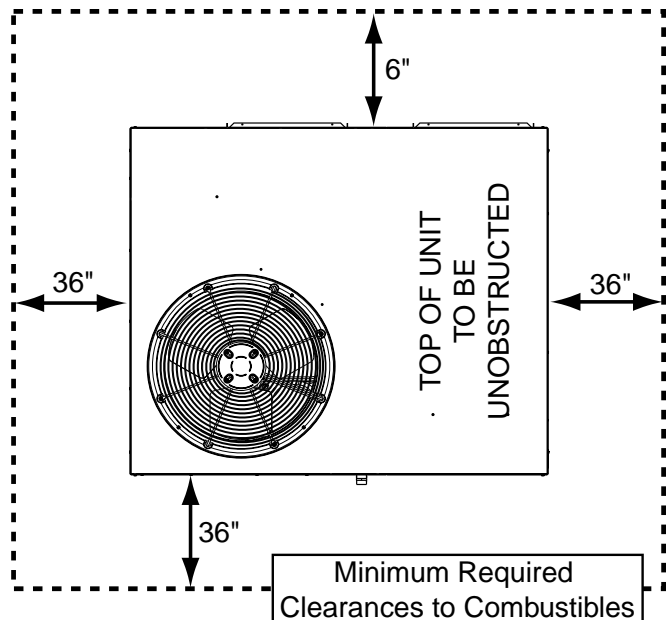

Figure 1. Clearance Requirements
- Provide adequate clearances around the combustion air intake louvers. See Figure 1 (page 5).
- Sufficient clearance for unobstructed airflow through the louvered control access panel and outdoor coil must be maintained in order to achieve rated performance. See Figure 1 for minimum clearance requirements.